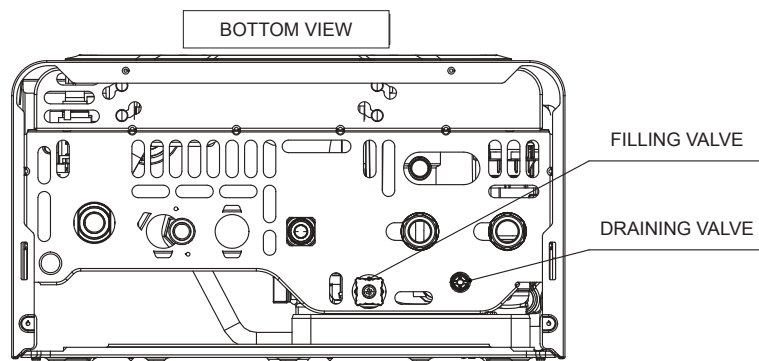

Fig. 2-2
*If the pressure is below 1 bar (with the circuit cool) restore normal pressure via the cock located in the lower part of the boiler (Fig. 2-2).*
To drain the boiler, use the special draining valve (Fig. 2-2)